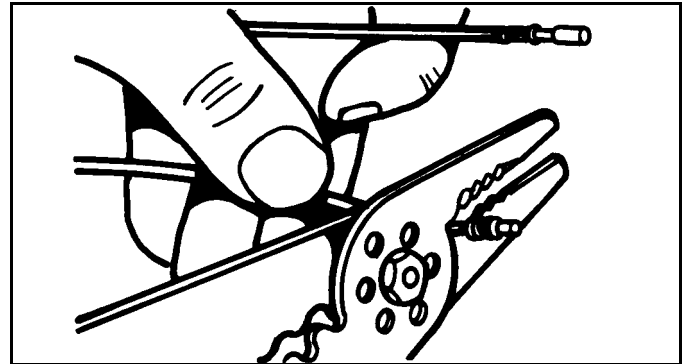

Figure 2-12
2. Use universal electrical pliers to remove wire as close as possible to old contact. (See Figure 2-12)